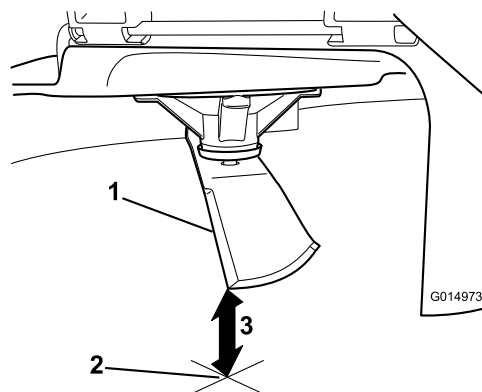

**Figure 52**
3. Measured distance between blade and the surface (A)
4. Rotate the same blade 180 degrees, so that the opposing cutting edge is now in the same position (Figure 52).